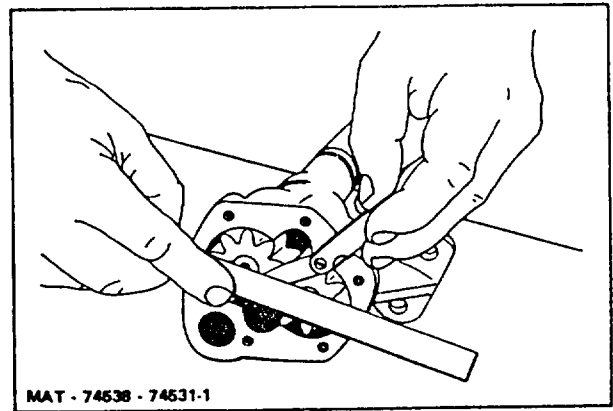

Figure 69. Checking Oil Pump End Clearance
5. Inspect the cover and face of the gears for excessive wear or scoring. With the gasket assembled to the body there should be .0015" to .006" clearance between the gears and the cover (Figure 69).